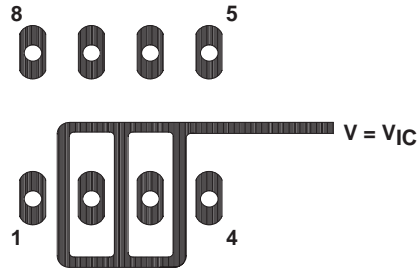

Figure 36. Isolation Metal Around Device Inputs (JG and P packages)
1. Isolate the device from other potential leakage sources. Use a grounded shield around and between the device inputs (see Figure 36). Leakages that would otherwise flow to the inputs are shunted away.
Because of the extremely high input impedance and resulting low bias-current requirements, the TLC27L1 is well suited for low-level signal processing; however, leakage currents on printed circuit boards and sockets can easily exceed bias-current requirements and cause a degradation in device performance. It is good practice to include guard rings around inputs (similar to those of Figure 36 in the Parameter Measurement Information section). These guards should be driven from a low-impedance source at the same voltage level as the common-mode input (see Figure 41).